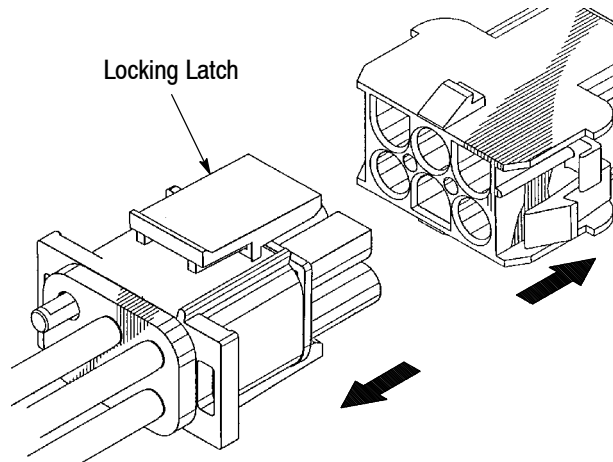

Figure 8
1. Depress both locking latches of the plug connector. Pull the cap connector away from the plug connector as shown in Figure 8.